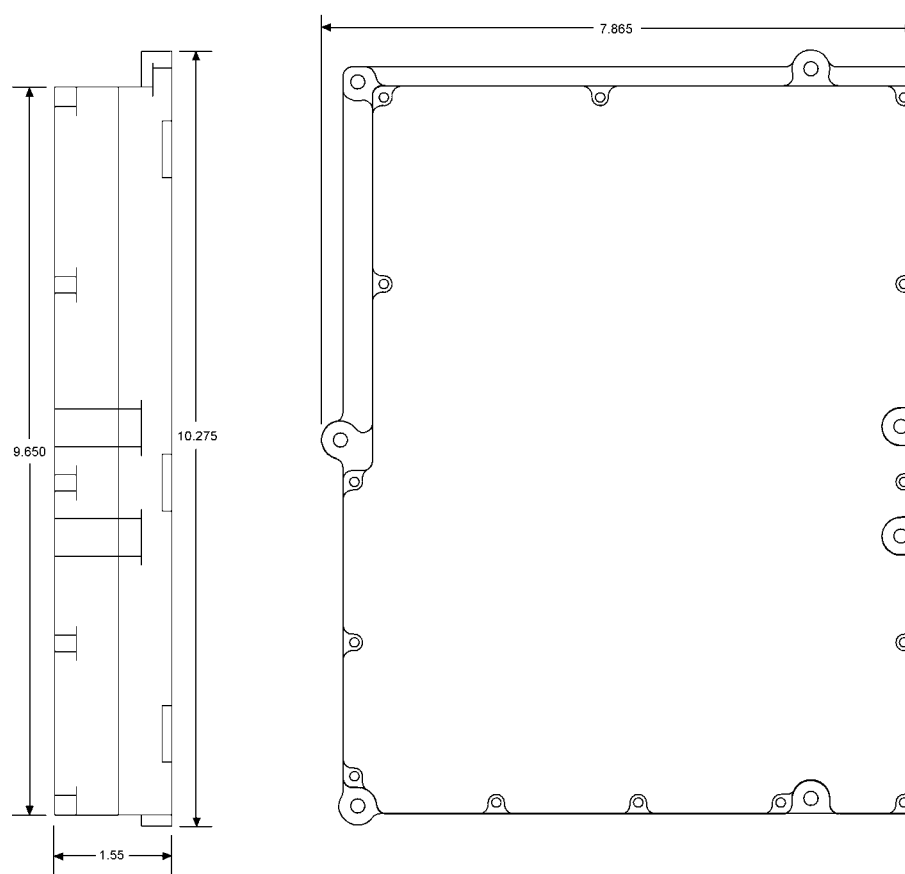

Figure 1-2. NTGS86AB Amplifier Top and Side Views with Dimensions
Physical dimensions of the amplifier module are shown in figure 1-2.
1. Install amplifier on heatsink with thermally conductive material inserted between amplifier module and heatsink, and secure in place with appropriate mounting screws. See figure 1-2.